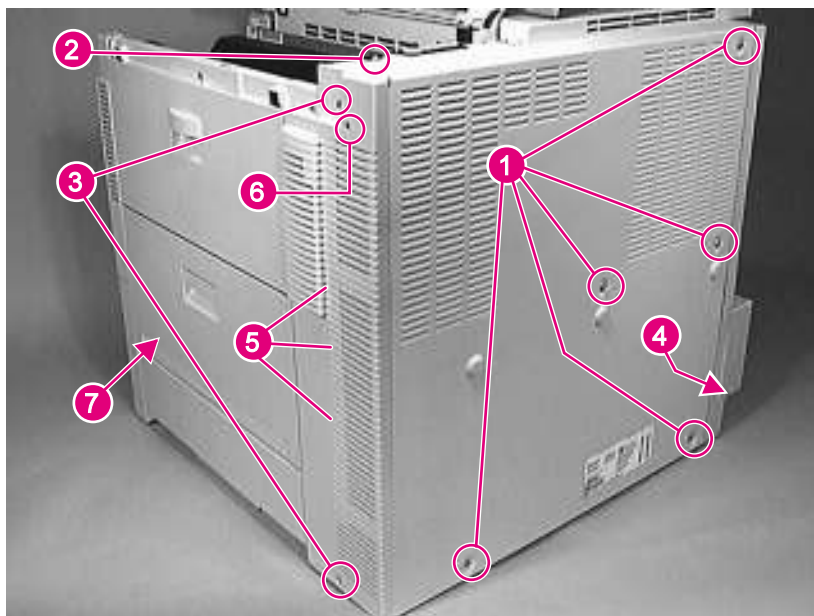

Figure 6-6 Back Cover
- 1 Remove 5 screws (figure 6-6, callout 1).
- 2 Open the top cover door, and remove 1 screw (figure 6-6, callout 2).
- 4 Remove 2 screws (figure 6-6, callout 3) from the plastic panel to the left of the metal back cover.
- 5 Carefully release the cover around the AC input connector (figure 6-6, callout 4) at the lower right of the back cover, and slide the right side of the cover slightly forward.
- 6 Carefully release the retaining tabs (figure 6-6, callout 5) on the plastic panel to the left of the metal back cover by gently pulling the cover to the left while moving both pieces away from the printer chassis.
- 1 Remove the back cover assembly (see figure 6-6).